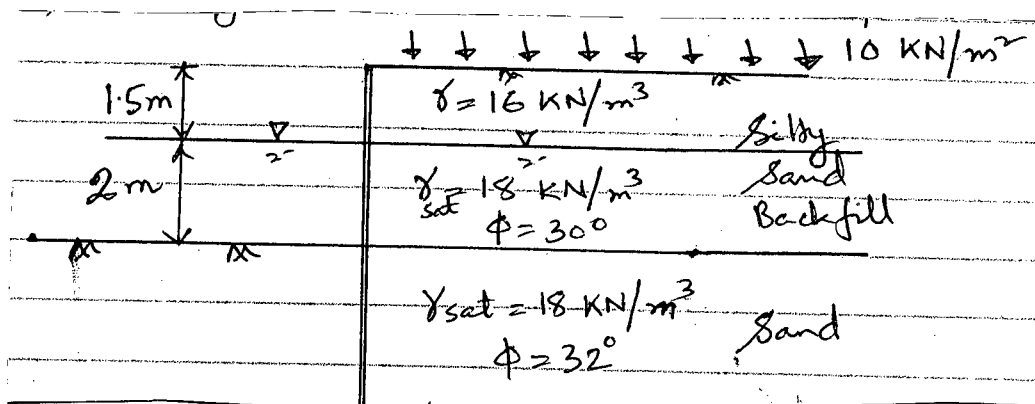

Fig: 6
- (b) What do you mean by slurry trench wall construction? List advantages and disadvantages of this method. (11)
- (c) Discuss advantages and disadvantages of using steel sheet piles. (6)
7. (a) A cantilever sheet pile needs to retain 3.5 m of sandy backfill material. It is embedded in sandy soil as shown in Fig. 6. Determine the required depth of penetration of the sheet pile, assuming a surcharge load of 10 kN/m2 on backfill. (15)
- (c) How do you account for unbalanced water pressure in sheet pile design? (3)
- (b) Derive the equation of motion of the weight w suspended from a spring at the free end of a cantilever steel beam shown in Figure 6. For steel,  $E = 29,000$  ksi. Neglect the mass of the beam and spring. (10)
- (c) What do you mean by critically damped system and undercritically damped system? (5)